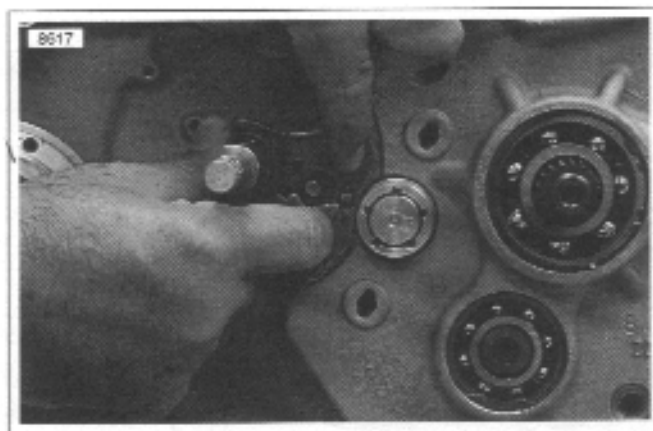

Figure 6-42. Removing Shifter Shaft Assembly
11. See Figure 6-42. Depress ratchet arms in order to clear the shifter drum and remove shifter shaft assembly from left crankcase half.